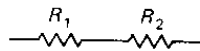

Figure 1.3
1. The resistance of two resistors in series is $R = R_1 + R_2$ (Fig. 1.3). By putting resistors in series, you always get a *larger* resistor.